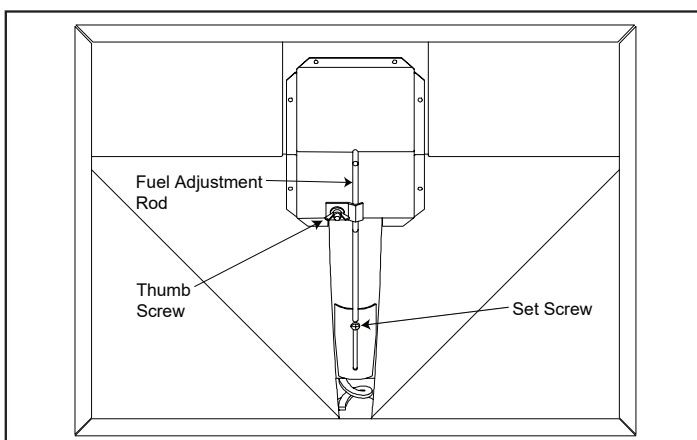

Figure 11.1
The feed adjustment control rod is factory set, and should be adequate for most fuels. The set screw is located at the bottom of the hopper and *set loose at the factory* so the fuel adjustment control rod will slide up and down by only loosening the thumb screw at the top. **See Figure 11.1.** Do not re-tighten bottom set screw.
1. Loosen the thumb screw. **Figure 11.1**